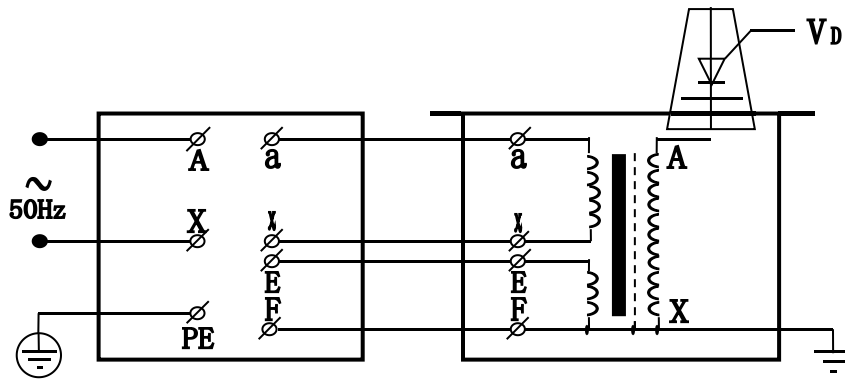

Figure4: Single Withstanding High Voltage Test Set principle diagram
2. The working principle of the Single BYQ5kVA Hipot Tester Set are shown in Figure 4, The high voltage fuse equipped with HV silicon stack, cascading in the high voltage circuit for half-wave rectification to get high voltage current. When using a short circuit rod to short the high voltage silicon stack, it can get the power frequency high voltage, as the state of AC. When you cancel the short circuit rod, it is in the state of DC.